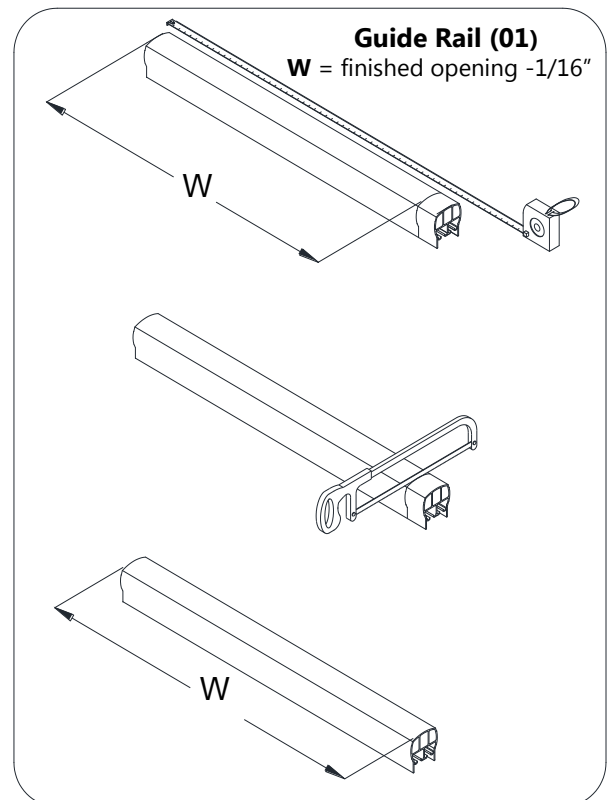
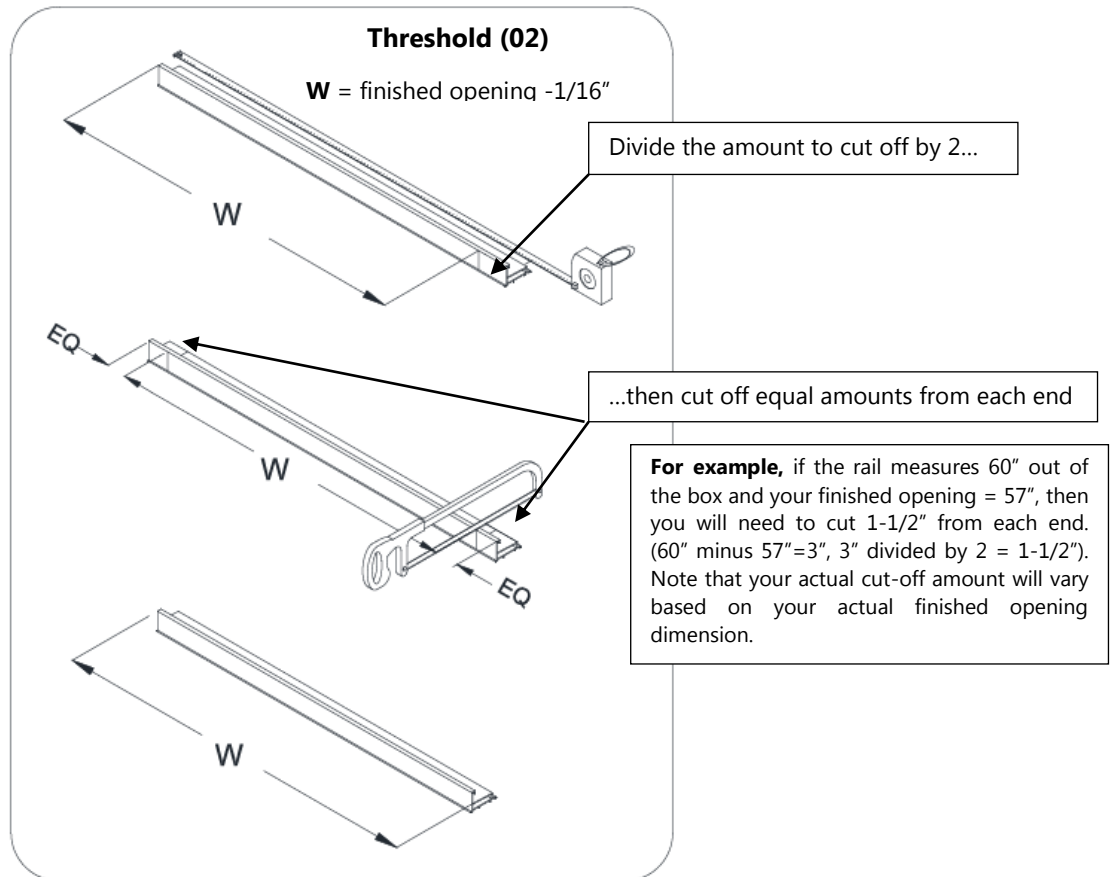

Fig. 2
Fig. 3
>The **Guide rail (01)** can be cut from either end. (Fig. 2)
>The **Threshold (02)** must be cut **equally from both ends**. (Fig 3) so that the center guide holes stay centered.
See Fig. 2 and Fig. 3 for details.